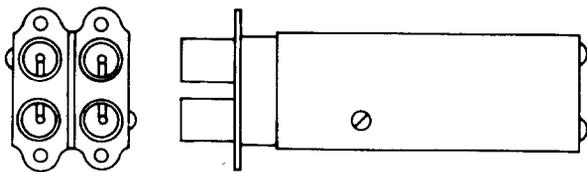

Fig. 6—556-Type Jack
**2.06 556A, B, C, D, E and F:** These are twin coaxial-type jacks (Fig. 6).